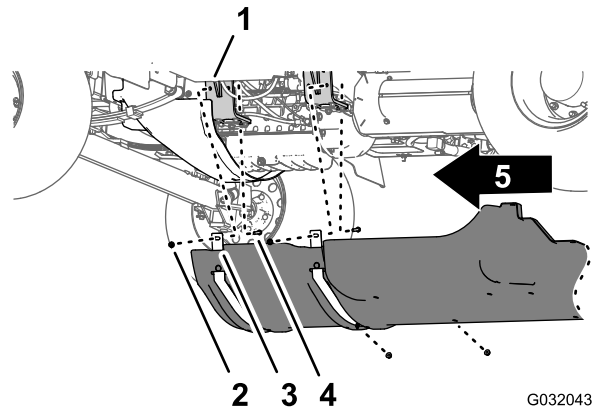

Figure 65
2. Slip the forward mounting flanges of the undercarriage shroud over the bolts and carriage bolts at the engine-mount brackets of the machine (Figure 65).
3. Assemble the undercarriage shroud to the engine-mount brackets and bolts (Figure 65) with the 4 flange locknuts (5/16 inch) that you removed in step 2 of Removing the Undercarriage Shroud (page 4).
1. Align the undercarriage shroud to the bottom chassis of the machine (Figure 65).